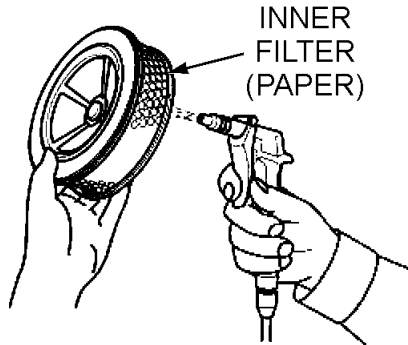

Figure 28. Cleaning Inner Paper Filter
6. To clean the paper air filter (Figure 28), tap the filter element several times on a hard surface to remove dirt, or blow compressed air [not to exceed 30 psi (207 kPa, 2.1 kgf/cm²)] through the filter element from the air cleaner case side.